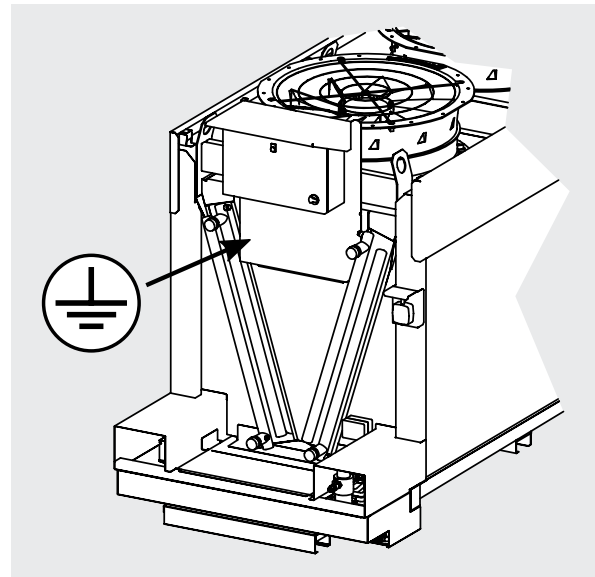

Figure 13
8.3 To minimise the risk of indirect contact, the electrical system can be earthed using the pin under the front cover. See Figure 13.